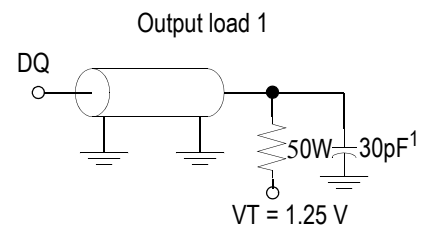

FIG. 1
Output load	Fig. 1 & 2
2. Test conditions as specified with output loading as shown in **Fig. 1** unless otherwise noted.